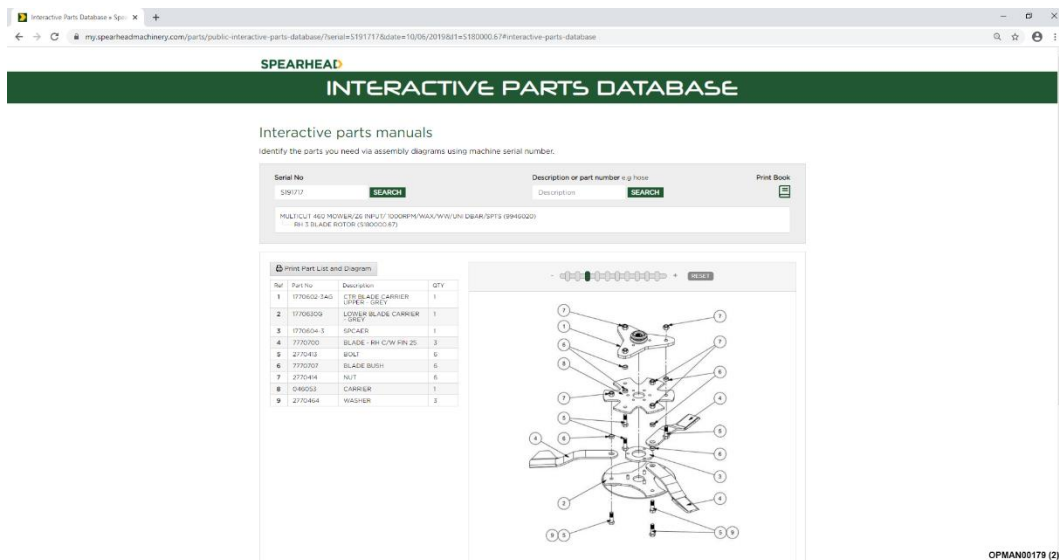

Figure 21 – Exploded Parts Breakdown With Bill Of Materials
- 7.2.1.4 You will finally be presented with a full exploded parts breakdown for that particular assembly, giving part numbers and the quantities required; see Figure 21.